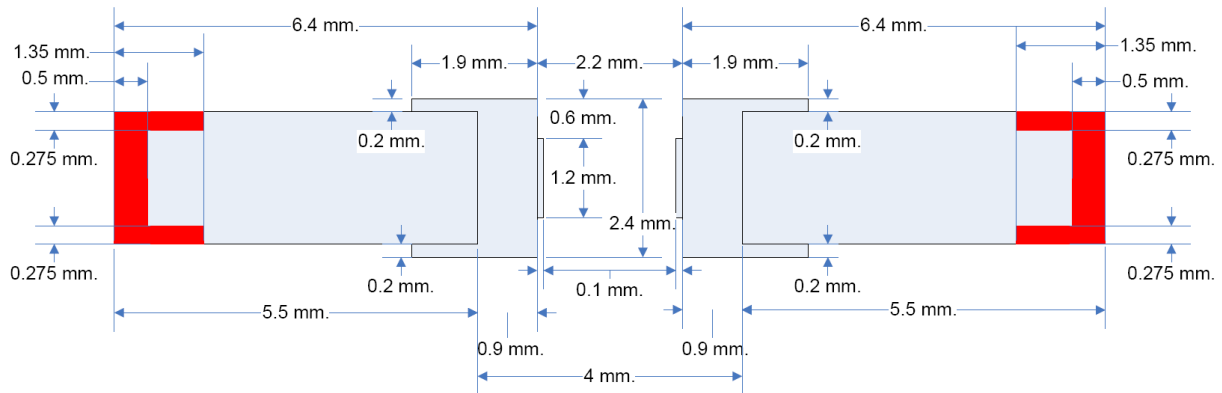

Figure 3 Triple 20 MHz crystal footprint with solder mask over pad
- The recommended land pattern for the smaller footprint crystals, 3.2mm x 1.5mm, includes pads that are much wider than the crystal leads. Creating a dual footprint for both the large and smaller form factor 20 MHz crystals further enlarges the pad size. The large pad size can result in crystals drifting from their placement during the reflow process. Reducing the pad size reduces a design's robustness to vibration, which could be an important factor given the mass of either the larger 20 MHz crystals. With the purpose of reducing the drift of the crystal during the reflow process, it is recommended to include additional solder mask over the pad as show in red in Figure 3.